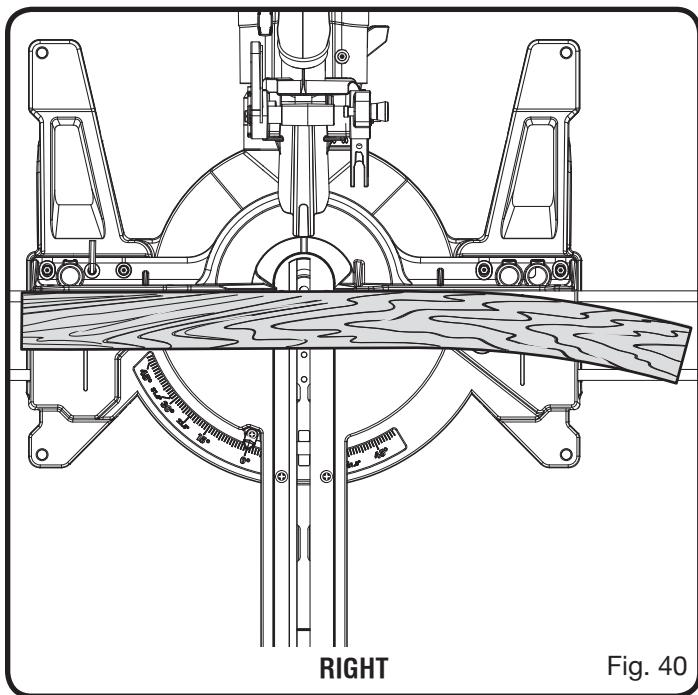

Fig. 40
- Place the workpiece flat on the miter table with one edge securely against the fence. If the board is warped, place the convex side against the fence. If the concave edge of a board is placed against the fence, the board could collapse on the blade at the end of the cut, jamming the blade. See Figures 40 - 41.
See Figures 40 - 41.
When cutting warped material, always make sure it is positioned on the miter table with the convex side against the fence as shown in figure 40.